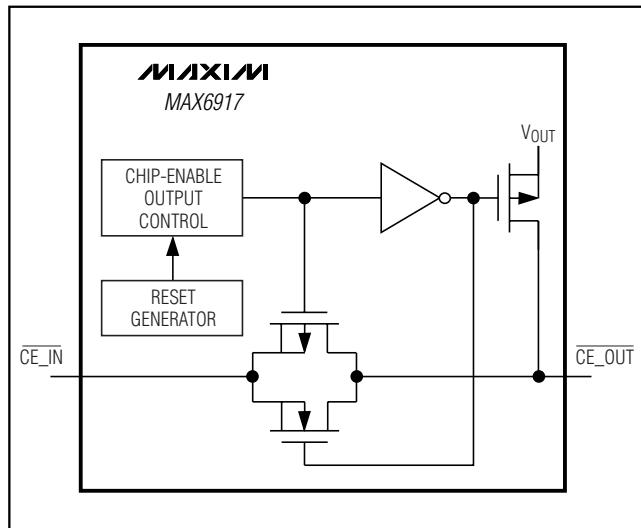

Figure 14. Chip-Enable Gating
Internal gating of chip-enable (CE) signals prevents erroneous data from corrupting external SRAM in the event of an undervoltage condition. The MAX6917 uses a transmission gate from CE_IN to CE_OUT (Figure 14). During normal operation (RESET inactive), the transmission gate is enabled and passes all CE transitions. When reset is asserted, this path becomes disabled, preventing erroneous data from corrupting the external SRAM. The short CE propagation delay from CE_IN to CE_OUT enables the MAX6917 to be used with most μ Ps. If CE_IN is low when reset asserts, CE_OUT remains low for t_{RCE} to permit completion of the current write cycle.
When the CE transmission gate is enabled, the impedance seen at \overline{CE}_{OUT} is equivalent to a 46Ω (typ) resistor in series with the source driving CE_{IN} . In the disabled mode, the transmission gate is off and an active pullup connects \overline{CE}_{OUT} to V_{OUT} (see Figures 14, 16). This pullup turns off when the transmission gate is enabled.